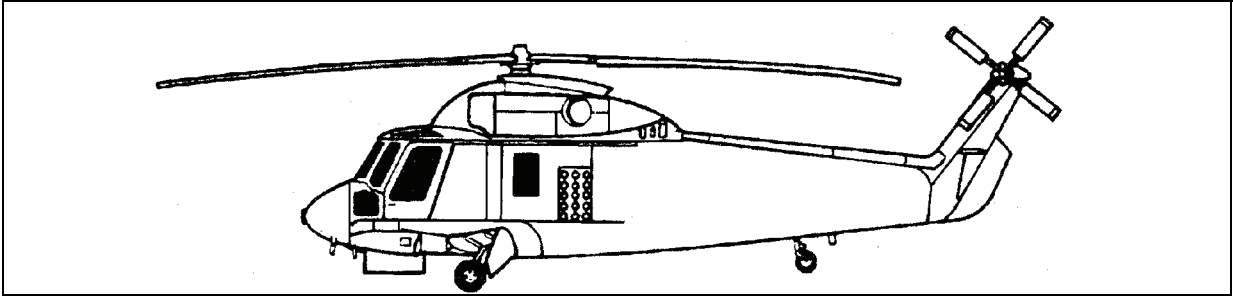
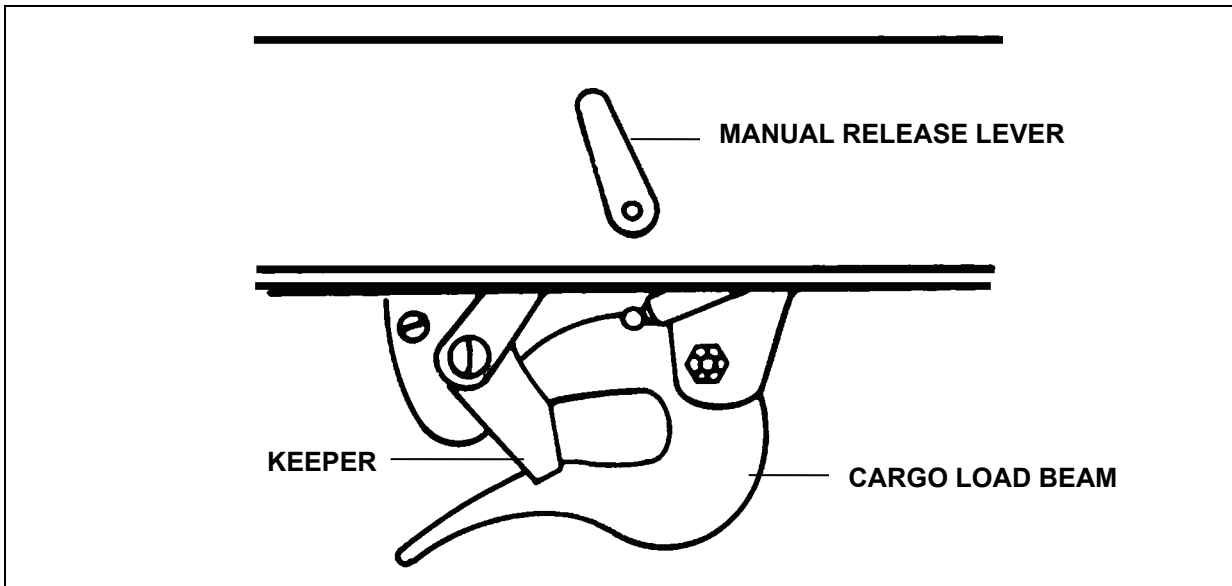

Figure 2-4. SH-2F Sea Sprite
Figure 2-5. SH-2F Cargo Hook
- **SH-2F.** The SH-2F Sea Sprite is a twin engine, single main rotor helicopter (Figure 2-4) manufactured by Kaman Aerospace Corporation. The cargo hook maximum capacity is 4,000 pounds and is mounted under the fuselage aft of the main landing gear (Figure 2-5). The cargo hook has a small throat opening between the load beam and keeper. Some sling equipment is too large to fit on the cargo hook. Coordinate with SH-2 unit to make sure your sling equipment will fit on the cargo hook. The cargo hook is normally opened electrically or manually by the aircrew. A manual release lever is located on the left side of the cargo hook. In an emergency, the ground crew can move the lever aft to open the cargo hook.